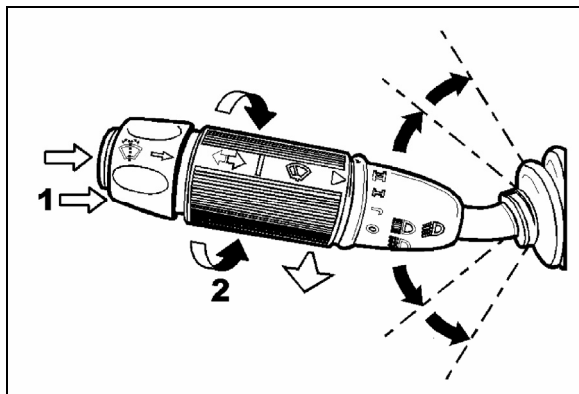

FIGURE 9: MULTIFUNCTION LEVER
Turn the multifunction lever forward to activate windshield wipers (item 2, fig. 9). The first position operates the wipers at low speed and the second position operates the wipers at high speed. Turning the lever backwards will operate the wipers in the intermittent mode.
The windshield washer pumps are electrically operated and are controlled by a washer control ring on the multifunction lever (item 1, fig. 9).